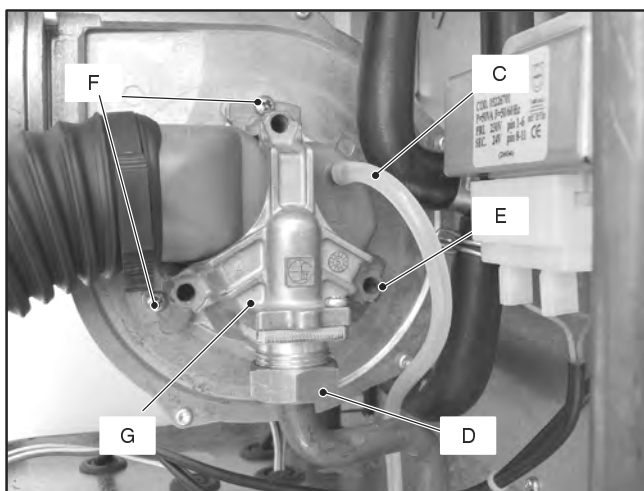

Fig. 17.2
- 3 Disconnect the rubber pipe C (Fig. 17.2).
- 4 Completely loosen the gas connection D (Fig. 17.2).